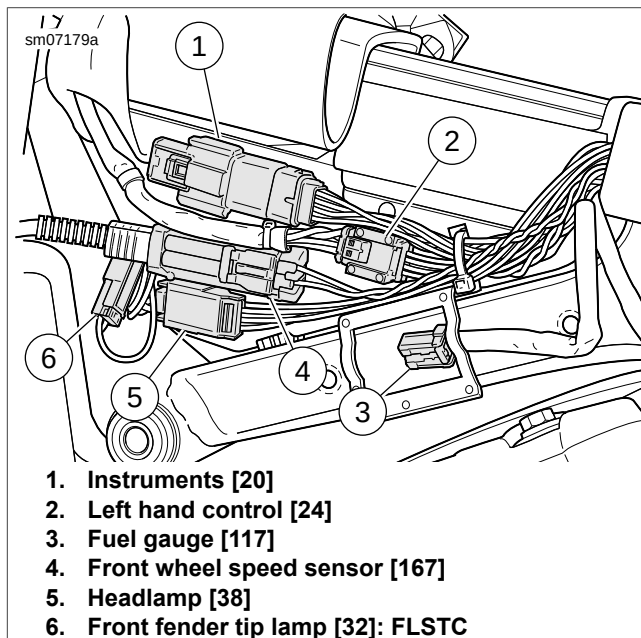

Figure 7-89. Under Fuel Tank Left Side
2. See Figure 7-89. Slide fuel tank rearward and disconnect instruments harness connector [20] (1).
3. See Figure 7-89. Connect instruments harness connector [20] (1).